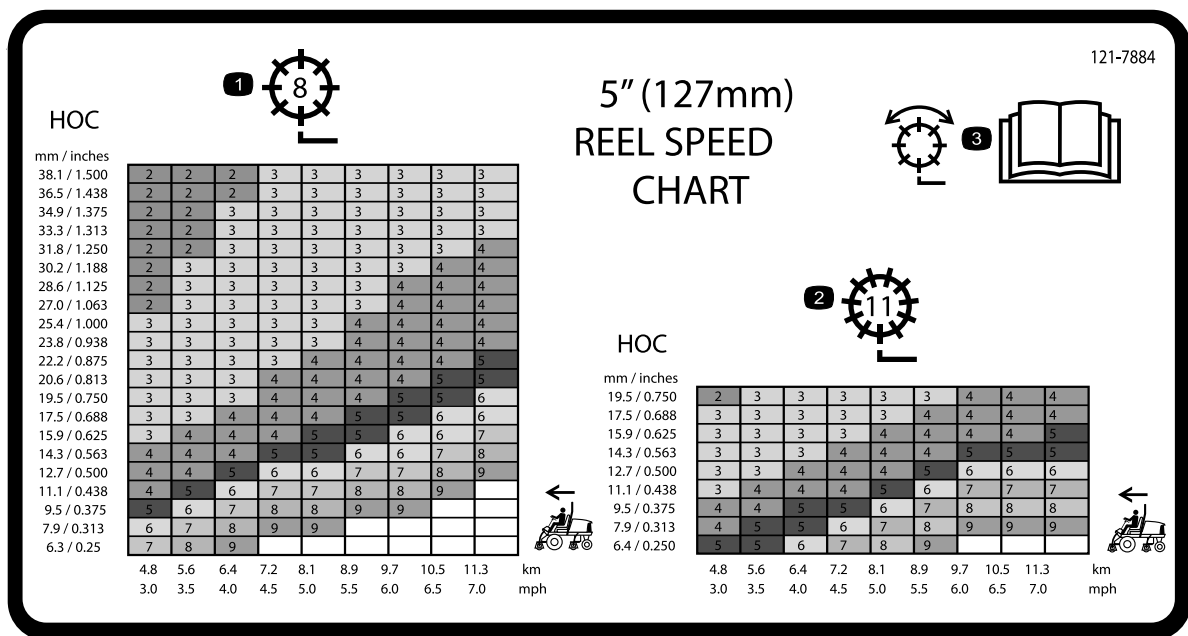
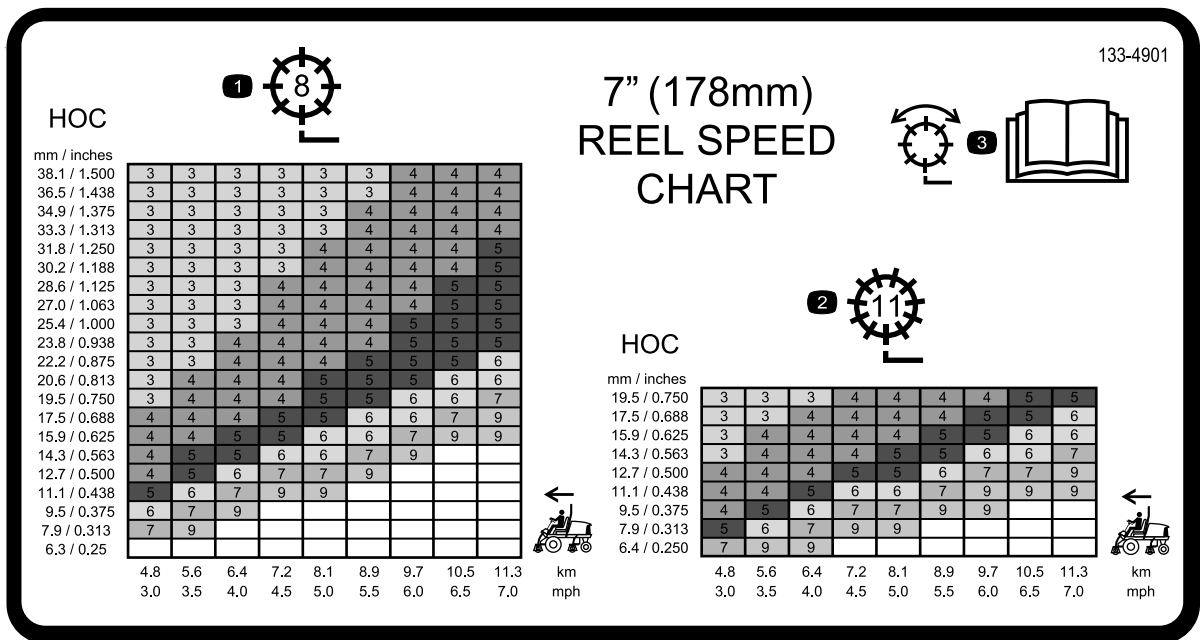

Figure 31
Figure 32
3. Use the graph on the reel speed chart decals (Figure 31 and Figure 32), to determine the proper reel speed setting.